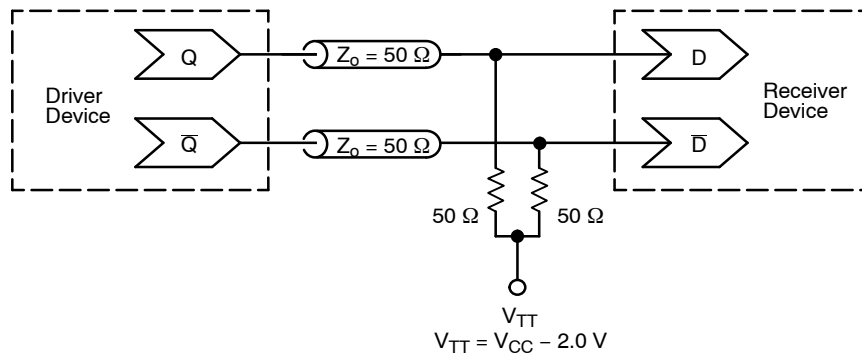

Figure 10. Typical Termination for Output Driver and Device Evaluation (See Application Note AND8020/D – Termination of ECL Logic Devices.)
- All loading with 50  $\Omega$  to  $V_{CC} - 2.0\text{ V}$  (see Figure 10).
9. All loading with  $50\ \Omega$  to  $V_{CC} - 2.0\text{ V}$  (see Figure 10).
12. All loading with  $50\ \Omega$  to  $V_{CC} - 2.0\text{ V}$  (see Figure 10).
15. All loading with 50  $\Omega$  to  $V_{CC} - 2.0\text{ V}$  (see Figure 10).
18. All loading with 50  $\Omega$  to  $V_{CC} - 2.0\text{ V}$  (see Figure 10).
20. Measured using a 750 mV source, 50% duty cycle clock source. All loading with 50 Ω to  $V_{CC} - 2.0\text{ V}$  (see Figure 10).